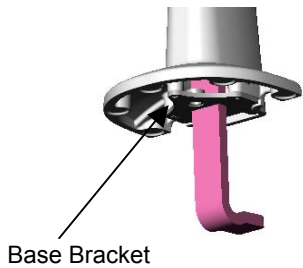

Figure 6. Secure Base Clamp
3. Using three screws, secure the base bracket to the bottom of the desk clamp (see Figure 6).